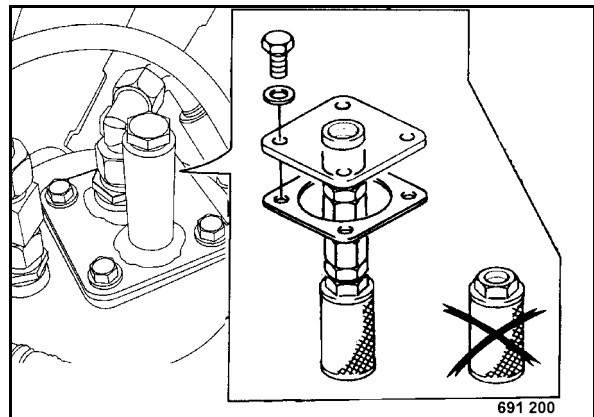

Fig. 80
- Remove return hose and connecting flange and unscrew the hydraulic oil suction filter (Fig. 80).